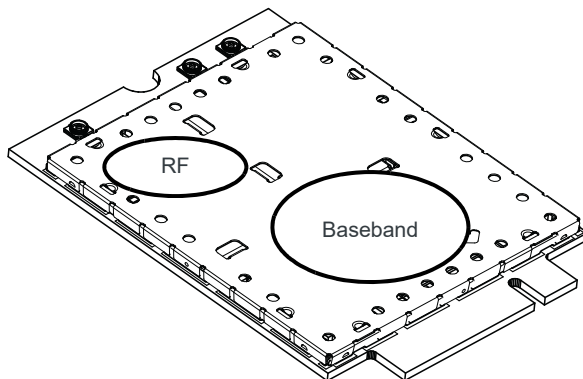

Figure 6-4: Shield Locations (Top View)
- Monitor temperature at all shield locations. Attach thermocouples to the areas indicated in Figure 6-4 on page 60 (RF, Baseband).